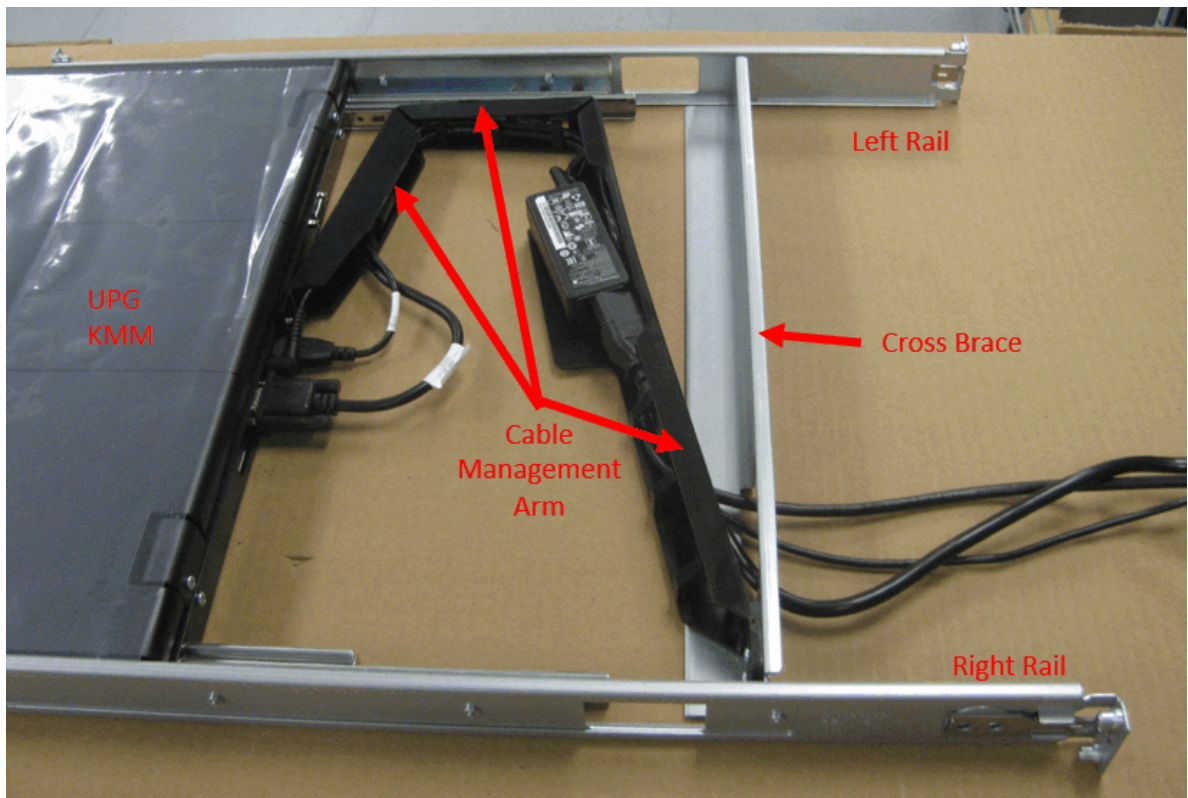

Figure 11. KMM rail assembly with cable management arm, cross brace, and cables installed
- ___ 9. Before continuing to the next step, refer to Figure 11 on page 106, which shows the KMM rail assembly with the cable management arm, cross brace, and cables installed. Use this figure as a reference as you complete the KMM and rail assembly installation (step “10” on page 106 through step “13” on page 106).